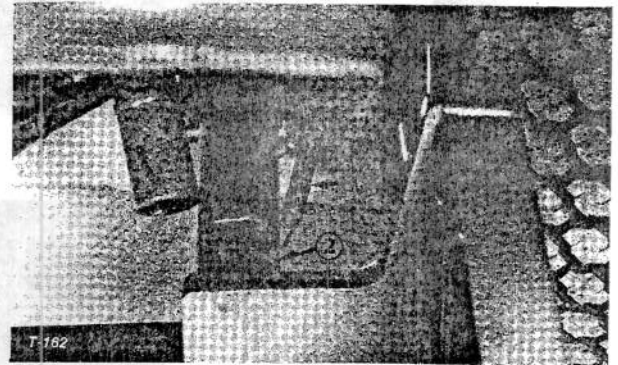

Figure 36
1. Disengage spring from slotted hole on lift arm (Fig. 36). Since spring is tensioned, retract it carefully.
2. Remove end of spring from clevis pin retaining brake strut and brake cable yoke together (Fig. 36).
4. Using a pliers, install long end of spring through slotted hole in cutting unit suspension frame (Fig. 36).